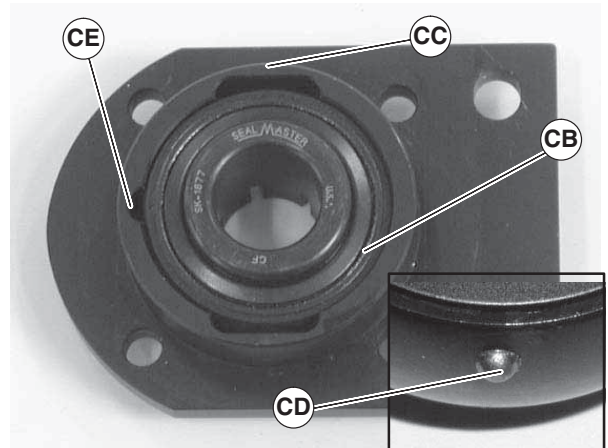

Figure 62
2. Insert bearing (Figure 62, item CB) into housing slot (CC). Locate anti-rotation nub (CD) to align with slot (CE), and twist bearing into housing.